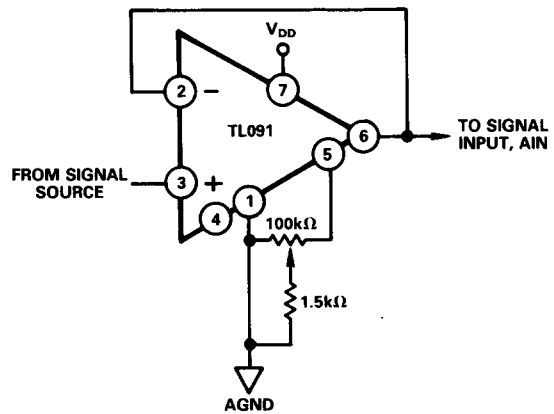

Figure 13. Offset Adjust Circuit
3. **OFFSET ERROR:** Offset error adjustment in single-supply systems may be easily achieved by means of the offset null facility of an op-amp when used as a voltage follower for the analog input signal AIN (see Figure 13). The op-amp chosen should be able to operate from a single supply and allow a common-mode input voltage range that includes 0V, e.g. TL091. To adjust for zero offset error the input signal source is set to +4.8mV (i.e., $\frac{1}{2}$ LSB) while the 100k Ω potentiometer is varied until the ADC output code flickers between 000...00 and 000....01.